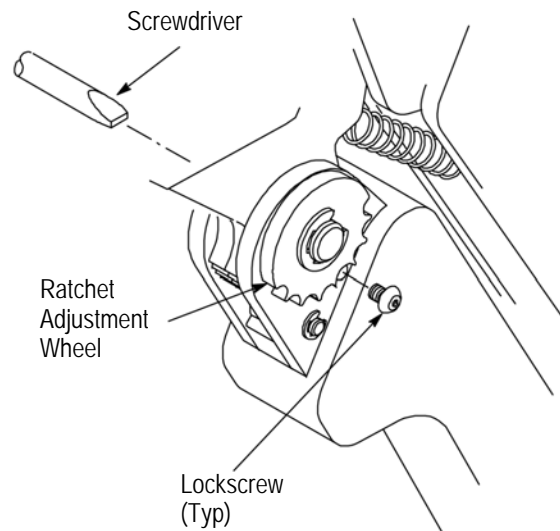

Figure 5
7. RATCHET (Crimp Height) ADJUSTMENT (FIGURE 5)